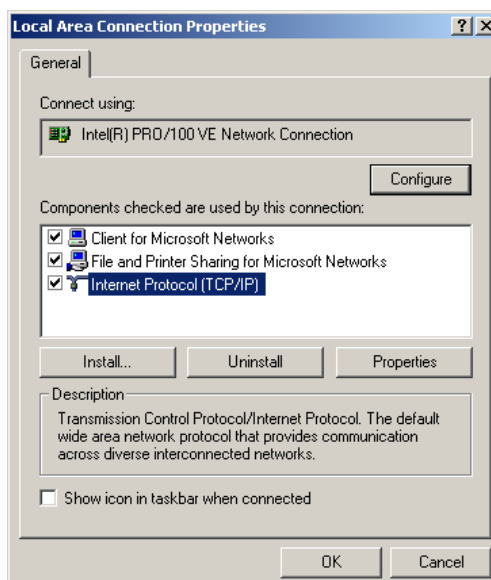

Figure 96: Local Area Connection Properties
3. Right-click the Local Area Connection icon that represents the network adapter that connects the computer to the DW4020 and select Properties. The Local Area Connections Properties window appears. See Figure 96.